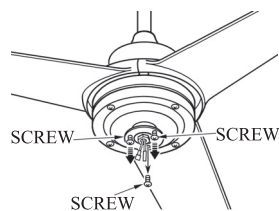

FIG.12
1. Remove one of 3 screws on motor, and loosen the other 2 screws. (see Fig.12)